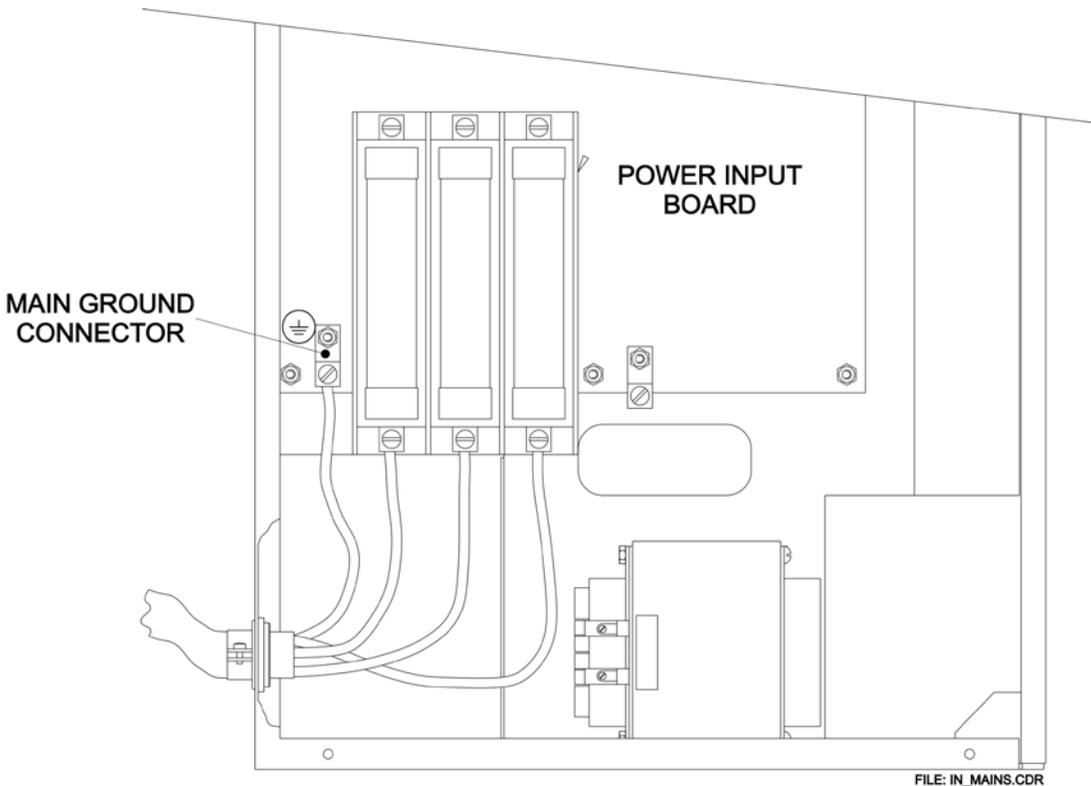

Figure 2-9: Generator mains connections
3. Temporarily remove the safety cover from the main fuses. Strip sufficient cable jacket to allow the ground wire to reach the main ground connector located at the left side of the main fuse block. Refer to figure 2-9.
A separate ground wire (10 AWG, 6mm²) must be connected from each X-ray tube housing to one of the ground studs on the HT tank. Refer to figure 2-9 or 2-10. These ground locations may have other ground wires already connected, ensure that these existing ground wires are not disconnected when making the X-ray tube ground connection.